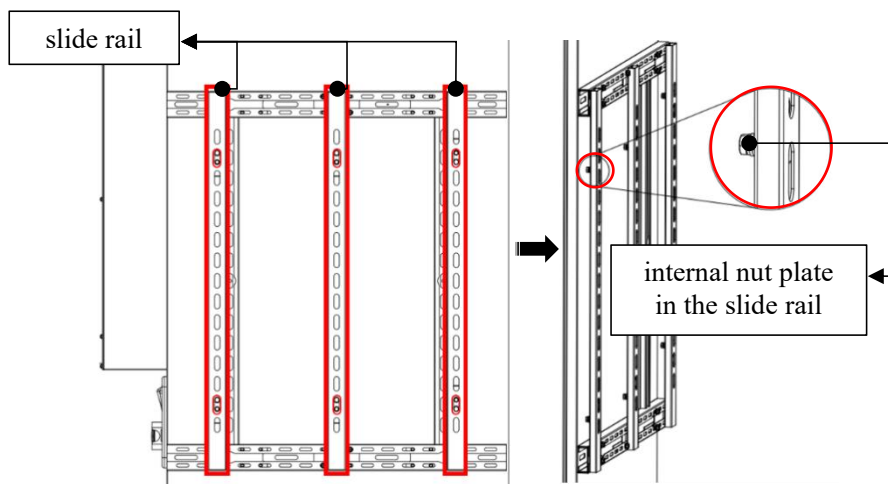

Figure 3.2.10
(2) Adjust the cabinet bracket and the internal nut plate in the slide rail to suitable position against the bracket mounting holes supplied by inverter (Fig. 3.2.10).
(3) Reinstall the screws removed previously back into the cabinet bracket to complete the fixing of the slide. In addition, the movement and fixation of the nut plate is mainly based on the tightness and looseness of the nuts on it (Fig. 3.2.10).